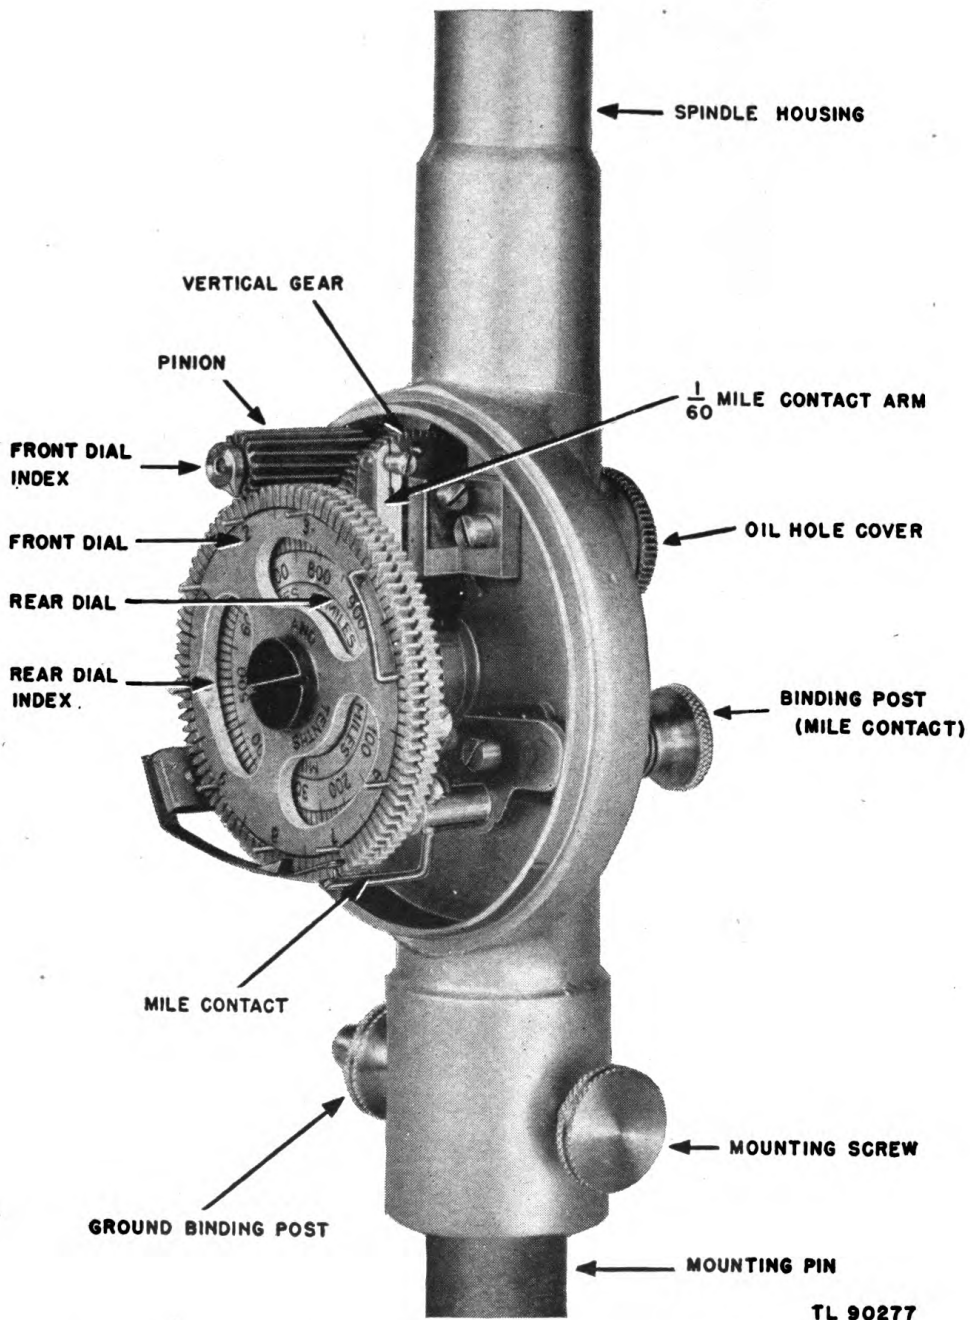
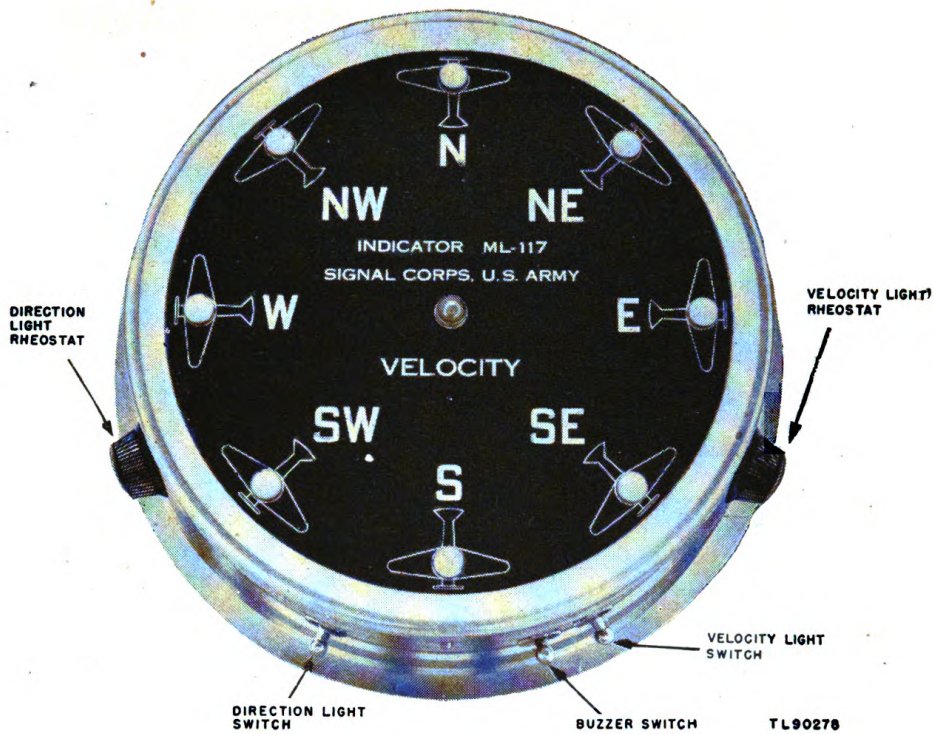

Figure 4. Anemometer ML-80 or ML-80-B, case removed, showing dials and gear mechanisms.
Figure 5. Indicator ML-117 or ML-117-B.
d. Spindle. (1) The upper end of the spindle is extended through a plain, bronze, sleeve bearing at the top of the housing; the lower end is supported in a combination sleeve and thrust bearing.
(2) The upper portion of the spindle is hollow down to the upper bearing, where a pinhole extends from the center to the side of the spindle.
(3) The upper end of the spindle is threaded to receive an oiler. The oiler contains a supply of oil and a wick that extends down into the hollow portion of the spindle.
(4) A worm gear is cut integral with the spindle just above the lower bearing.
e. Dials and contacts. (1) The dials and the electrical-contacting mechanisms are operated by a vertical gear that engages the worm gear of the spindle. (See fig. 4.)
(2) The vertical gear rotates on a horizontal axis, with a worm gear fastened to the same shaft. The worm drives a long pinion gear which engages the gear teeth cut around the two dial plates that rotate on the same center. The dials are placed one behind the other, and are separated by a thin washer. The long pinion gear is held on its shaft by a small nut which is pointed on one side to serve as an index for the front dial.
(3) The front dial has openings through which the markings of the other dial are visible. The dials are read through the glass window of the gearcase. The front dial is graduated for miles and tenths-of-a-mile; the dial behind it is graduated in tens of miles and hundreds of miles.
(4) On the front dial are ten short pins equally spaced around and projecting from the face of the dial. A spring contact arm, grounded to the anemometer housing, is actuated by the pins to make contact with an insulated, fixed contact arm connected to the mile binding post at the back of the housing.
(5) One side of the vertical gear that engages the spindle worm is provided with six small projecting cam surfaces, equally spaced around the circle. A spring contact arm, grounded to the anemometer housing, is actuated by the cams to make contact with an insulated fixed contact arm connected to the 1/60-mile binding post at the back of the housing.
6. INDICATORS ML-117 AND ML-117-B (fig. 5). a. Components.